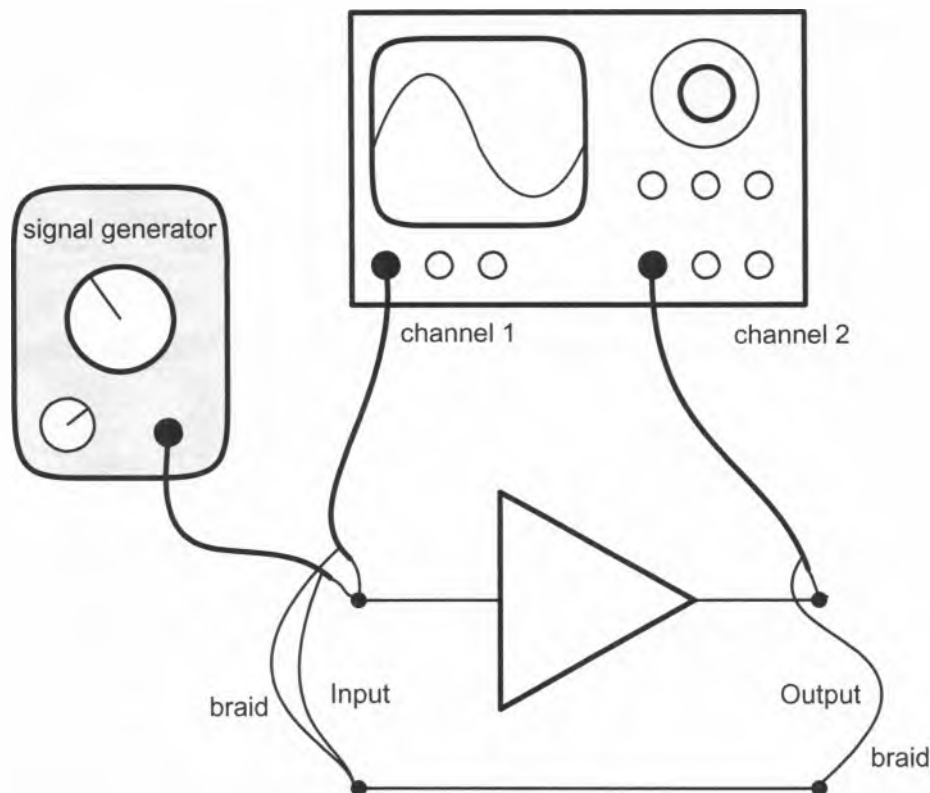

Figure 7 The test arrangement for measuring frequency response
- Connect a sinewave generator to the amplifier's input (your set-up should now look like Figure 7 below).